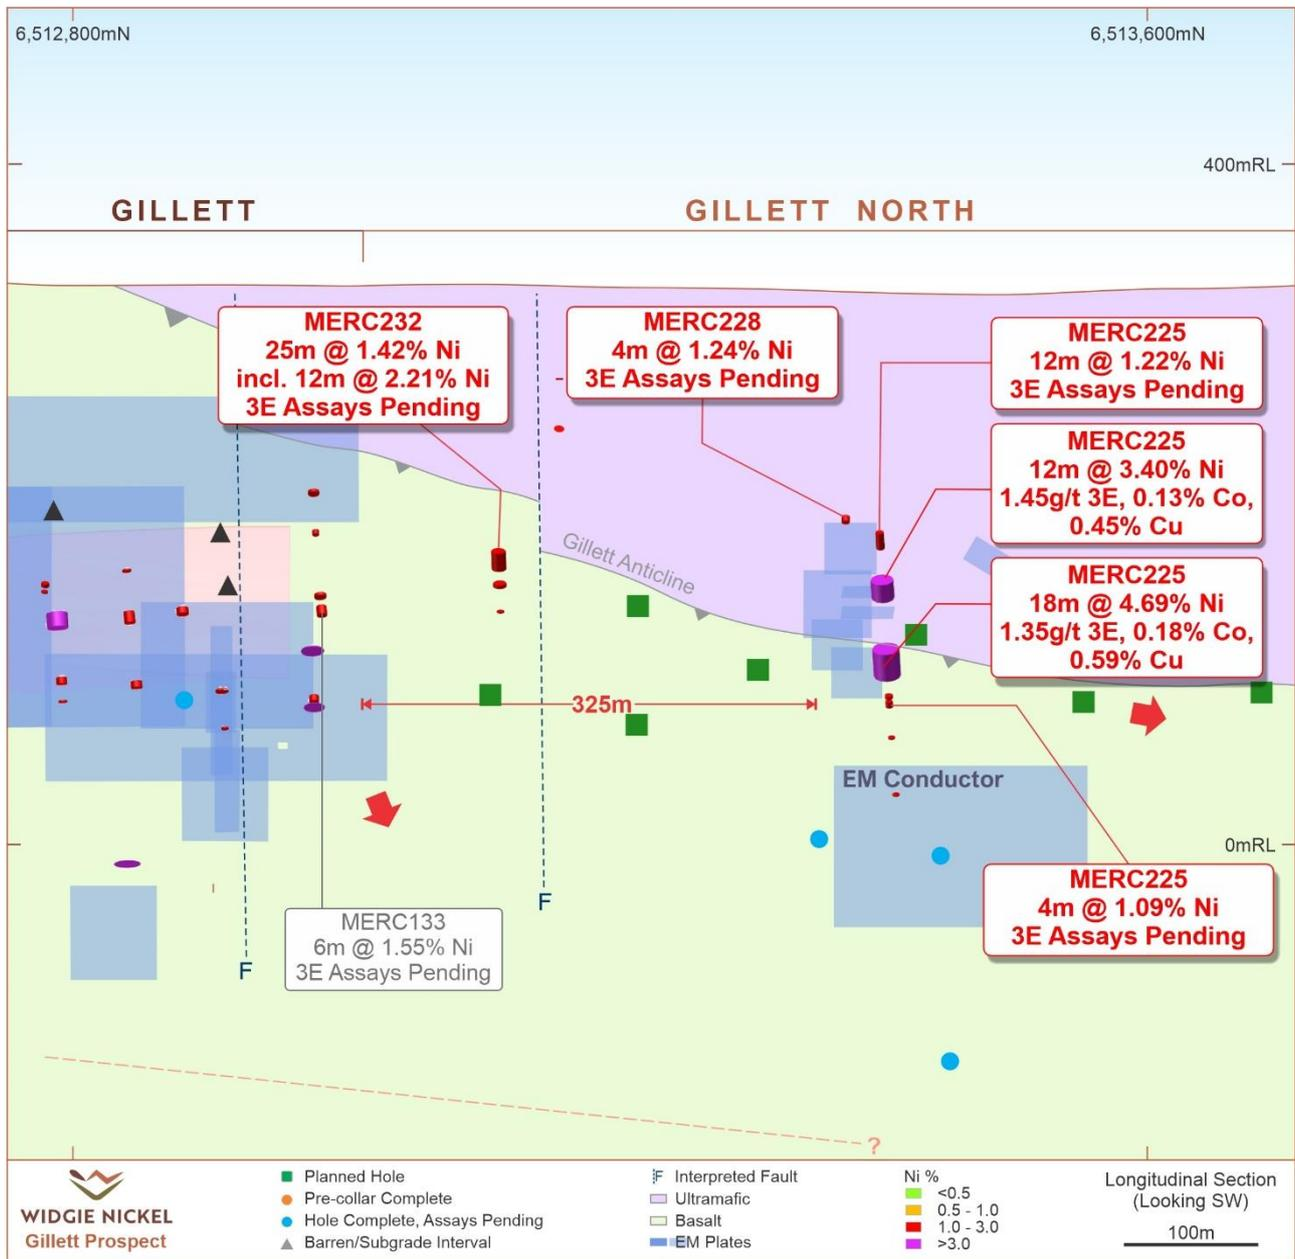
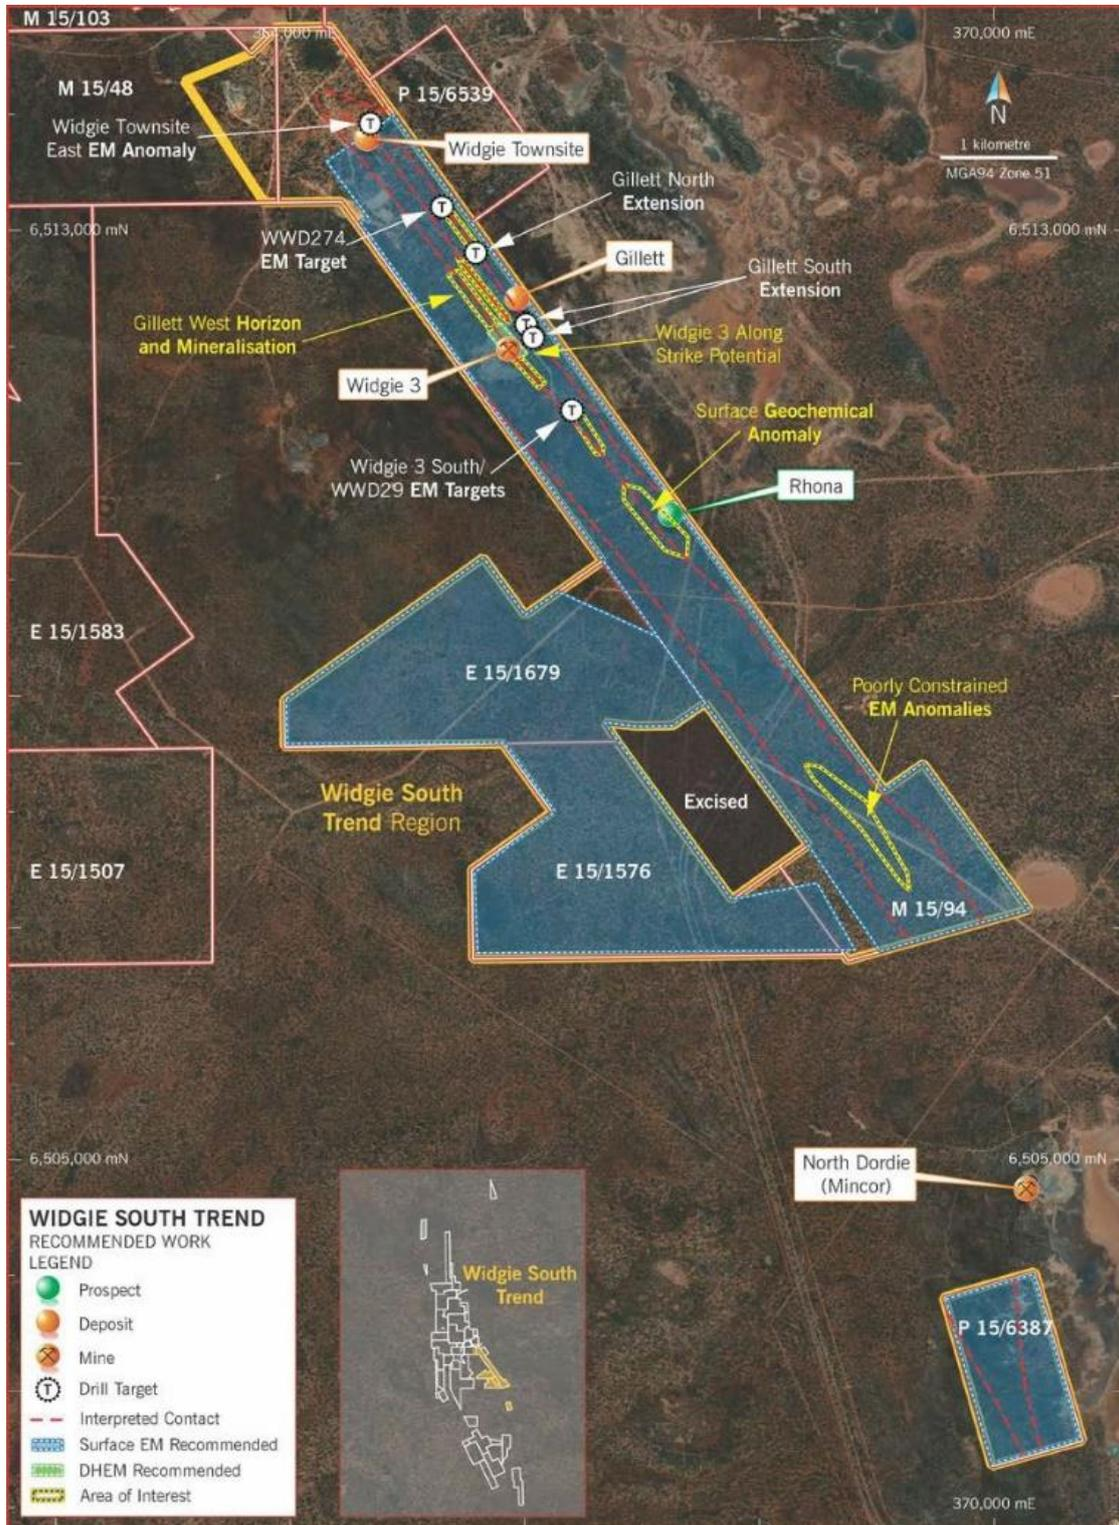

Figure 1 – Gillett North long-section showing significant assay results and proposed drilling
Figure 2 – A map of the Widjie South Trend area at the Mt Edwards project
Widgie Nickel Limited (ASX: **WIN**, “**Widgie**” or “**the Company**”) is pleased to announce that assays have been received for reverse circulation (RC) drillhole MERC232 at the Gillett North target (refer ASX announcements; 27 June 2022 – *High grade nickel sulphide discovery at Gillett North* and 22 July 2022 – *Significant By-product assays for Gillett North discovery*) confirming significant resource growth potential along strike and to the north-west of Gillett (Figure 1).
The good result from MERC232, further increases the potential to expand the Widgie South resource base of 70,800t Ni (Indicated and Inferred Resources) across three deposits within proximity of each other (Figure 2) as part of the overall Mt Edwards resource base of 168,150 Ni tonnes @ 1% Ni cut-off (refer ASX announcement 9 March 2022 - *Widgie grows Mt Edwards Nickel Resource*).
(Figure 2). It is with increased confidence that drilling now can continue to target mineralisation along strike to the north-west of the previous intersection in MERC225 (Figure 1).
Additional RC and diamond drilling is now planned and scheduled at Gillett North in the coming months (Figure 1), aiming to confirm continuity. The Company looks forward, with great anticipation, to updating the market as more results come to hand.